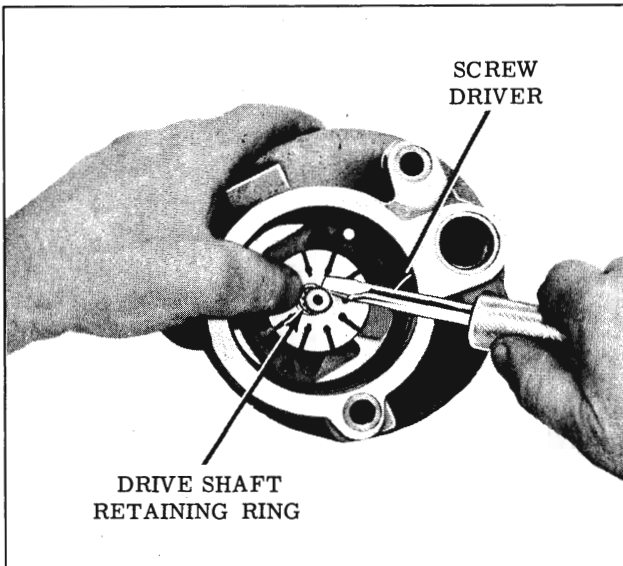

Fig. 4-235 Removing Snap Ring
10. Remount housing in vise and, using a suitable tool, remove snap ring on end of drive shaft. (Fig. 4-235)